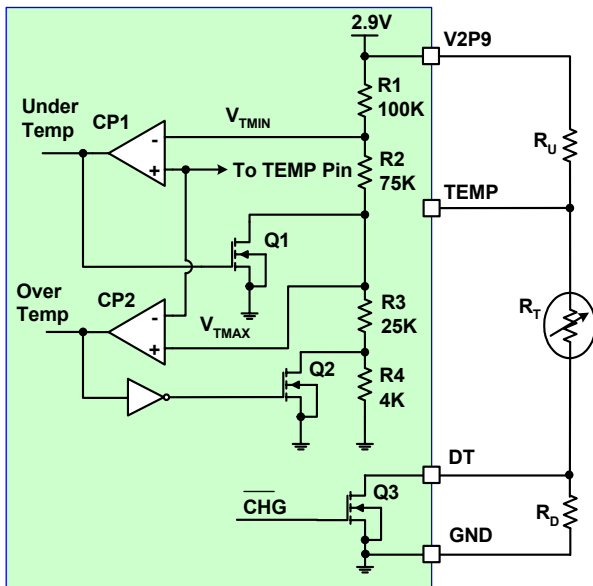
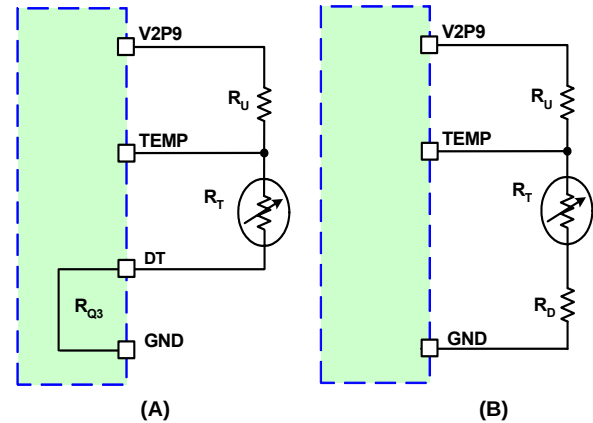

FIGURE 9. THE INTERNAL AND EXTERNAL CIRCUIT FOR THE NTC INTERFACE
FIGURE 10. EQUIVALENT CIRCUITS FOR THE NTC DIVIDER
Figure 9 shows the internal circuit for the ambient temperature sensing function. Two comparators form a window comparator whose high-threshold is V_{TMIN} and low-threshold is V_{TMAX} . These two thresholds are given in the Electrical Specifications. The two MOSFETs (Q1 and Q2) create a hysteresis for each comparator, respectively. The DT pin is shorted to GND via the internal Q3 MOSFET when the charger is not charging, resulting in the equivalent circuit shown in Figure 10 (A). The on-resistance of Q3 is typically 50Ω and is negligible compared to the external resistors. When the charger starts to charge, Q3 is turned off to set a higher temperature range determined by the external resistor R_D . The equivalent circuit is shown in Figure 10 (B). The DT pin provides a higher shut down ambient temperature during the charger operation.
As the temperature falls, the TEMP pin voltage rises. When it exceeds the 2.0V V_{TMIN} threshold, an under temperature condition exists. This condition does not clear until the TEMP pin voltage falls back below the threshold minus the hysteresis voltage (V_{TMIN-}). Similarly, an over-temperature condition exists when the TEMP pin voltage falls below the 0.714V V_{TMAX} threshold and does return to normal temperature operation until the voltage rises above the threshold plus the hysteresis voltage (V_{TMAX+}). The actual accuracy of the 2.9V supply voltage is **not important** because all the thresholds and the TEMP pin voltage are ratios determined by the resistor dividers, as shown in Figure 9.